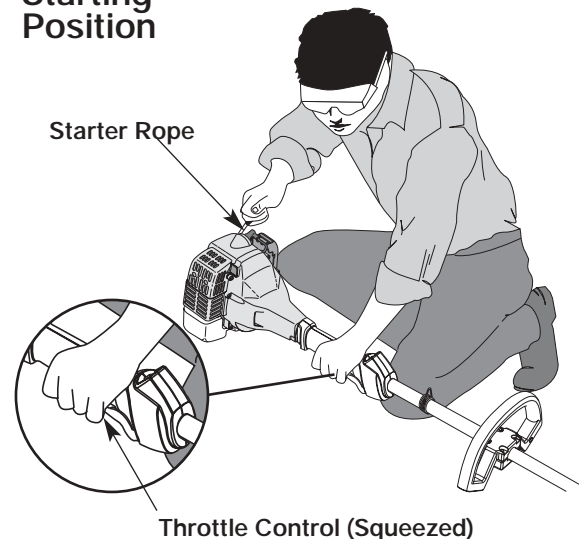

Fig. 8
WARNING: Avoid accidental starting. Make sure you are in the starting position when pulling the starter rope (Fig. 8). To avoid serious injury, the operator and unit must be in a stable position while starting.
5. Crouch in the starting position (Fig. 8) and squeeze the throttle control. Pull the starter rope briskly 4 times.